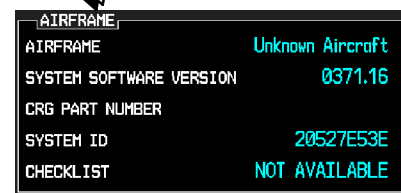

FIGURE SB-306-2 - LOCATING THE SYSTEM ID NUMBER
13. After software upload, note the SYSTEM ID number located on the last page of the Auxiliary page group (see Figure SB-306-2). On software revisions 0401-23 and prior, the customer (or dealer) may need to contact Garmin customer support for replacement database or unlock cards (if applicable) if the system ID changes as a result of the software upgrade (and the database cards consequently become unusable).